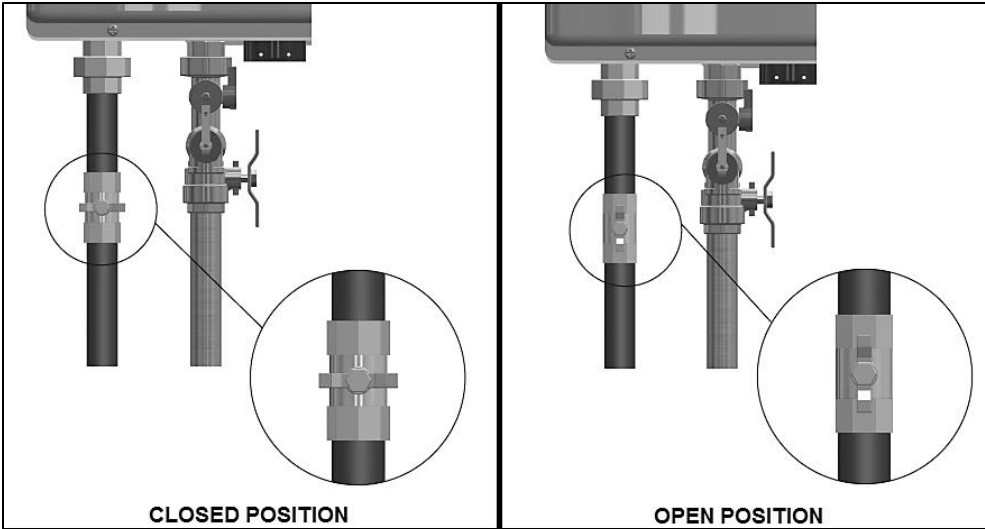

Figure 12 – Gas Line With Shut-Off Valve Detail
4. A manual gas shut-off valve should be installed in the gas supply line close to the water heater. See Figure 12 for detail.